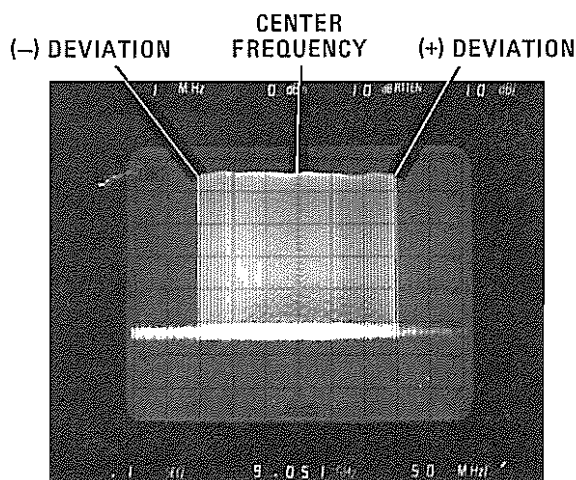

Figure 4-17. Typical Spectrum Analyzer Display of 100Hz Frequency Deviation
- e. Note point at which deviation becomes non-linear (+ deviation does not equal - deviation). Deviation at this point should be at least ± 150 MHz. (See Figure 4-17.)